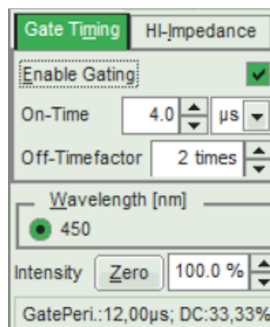

Figure 19: Gating Timing options
- The time in which the laser emission is kept off is defined by the value in the **Off-Timefactor** edit box, see Fig. 19. The **Off time** is the **On-Time** value multiplied by the **Off-Timefactor**. The resulting duty cycle and period time is displayed at the bottom.